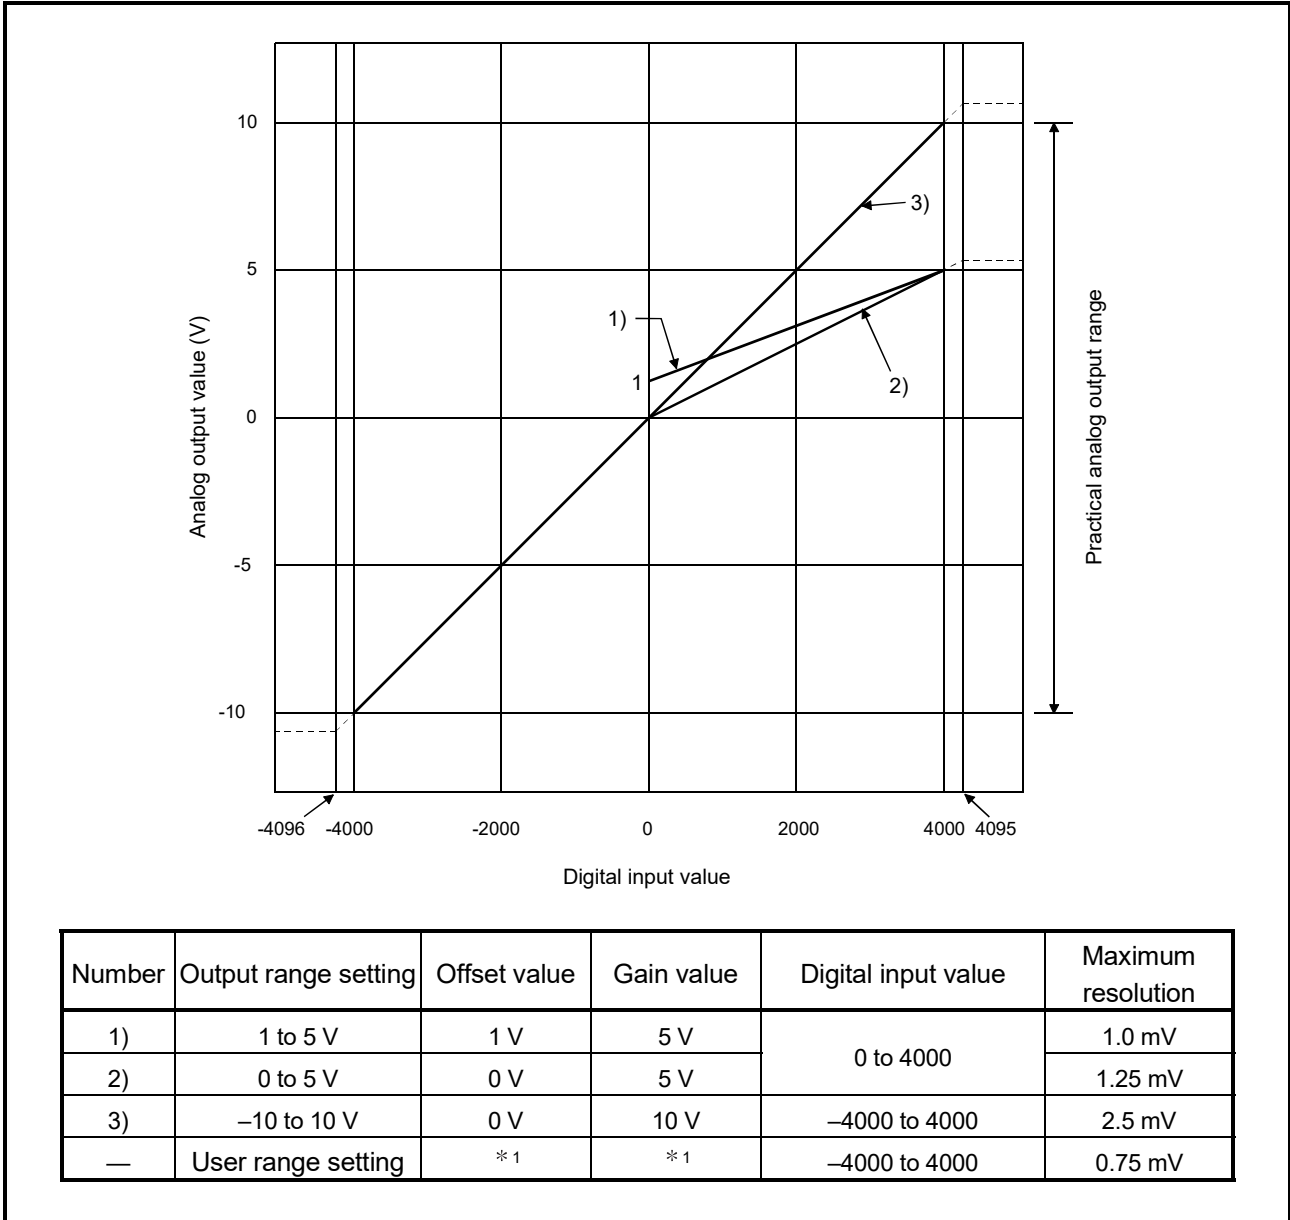

Figure 3.1 Voltage output characteristic in normal resolution mode
Figure 3.1 shows a graph of the voltage output characteristic in normal resolution mode.
<p>(1) Set within the digital input range and analog output range for each output range. If these ranges are exceeded, the maximum resolution and accuracy may not fall within the performance specifications. (Avoid using the dotted line area shown in Figures 3.1 and 3.2.)</p> <p>(2) Set the offset/gain values for the user setting range *1 within a range in which the following conditions are satisfied.</p> <p>(a) Setting range is from -10 to 10 V.</p> <p>(b) Without using the utility package Normal resolution mode setting: $\{ (\text{Gain value}) - (\text{Offset value}) \} > 3.0\text{V}$ High resolution mode setting: $\{ (\text{Gain value}) - (\text{Offset value}) \} \geq 4.0\text{V}$</p> <p>(c) Using the utility package Normal resolution mode setting: $\{ (\text{Gain value}) - (\text{Offset value}) \} > 3.0\text{V}$ High resolution mode setting: $\{ (\text{Gain value}) - (\text{Offset value}) \} > 4.0\text{V}$</p>
(2) Current output characteristic